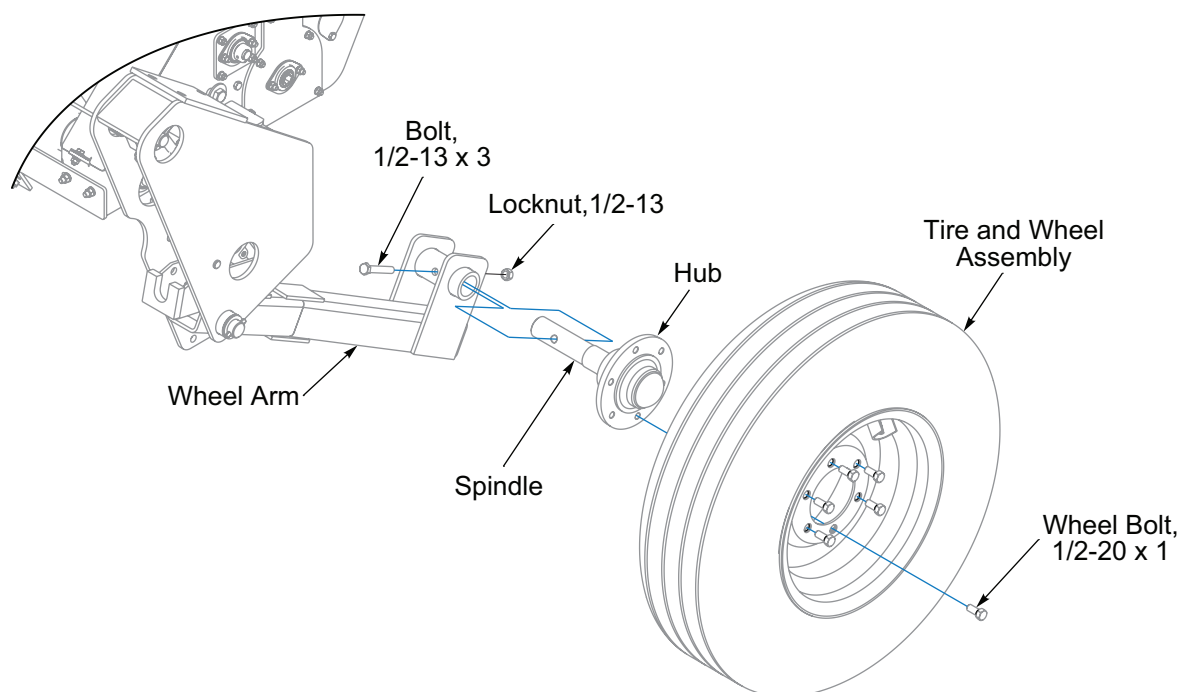

Figure 2-13: Tire and Wheel Installation
5. Apply anti-seize to Spindles and insert a Hub and Spindle Assembly into each Wheel Arm. Secure with 1/2-13 x 3 Bolts and Locknuts. **See Figure 2-13.**
6. Apply anti-seize to Spindles and insert a Hub and Spindle Assembly into each Wheel Arm. Secure with 1/2-13 x 3 Bolts and Locknuts. **See Figure 2-13.**